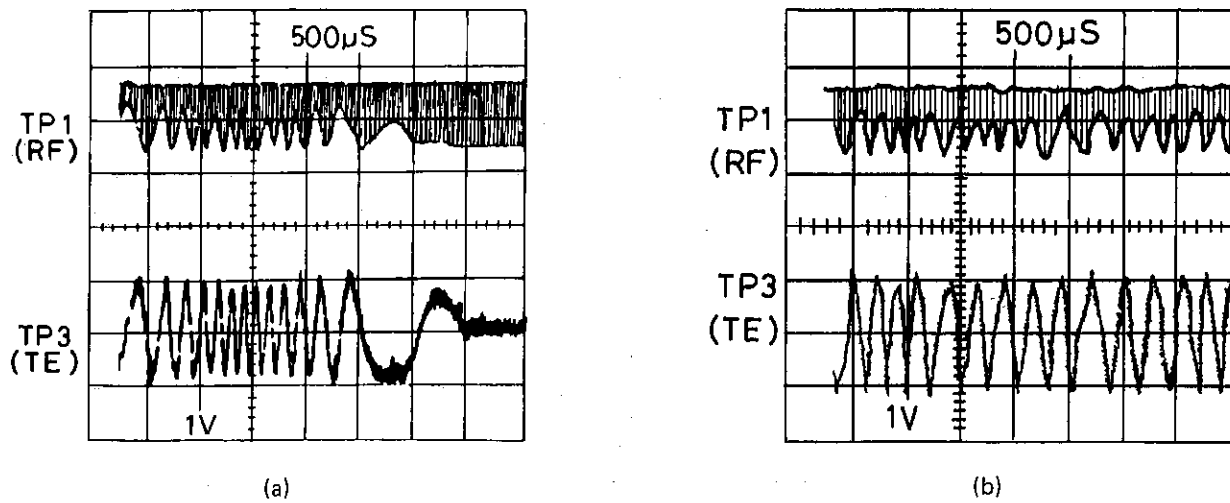

Figure 13
1. Connect the oscilloscope to TP3 (TE) and TP4 (Gnd).
5. Adjust SVR102 so that the TE (Tracking Error) signal waveform of TP3 on the oscilloscope is vertically symmetrical relative to 0V. (See Figure 13-a)
3. At the same time to load the test disc, it is observed the traverse waveform at TP3 during 4 sec. Adjust SVR102 so that its waveform on the oscilloscope is vertically symmetrical relative to 0V. (see Figure 13-b).